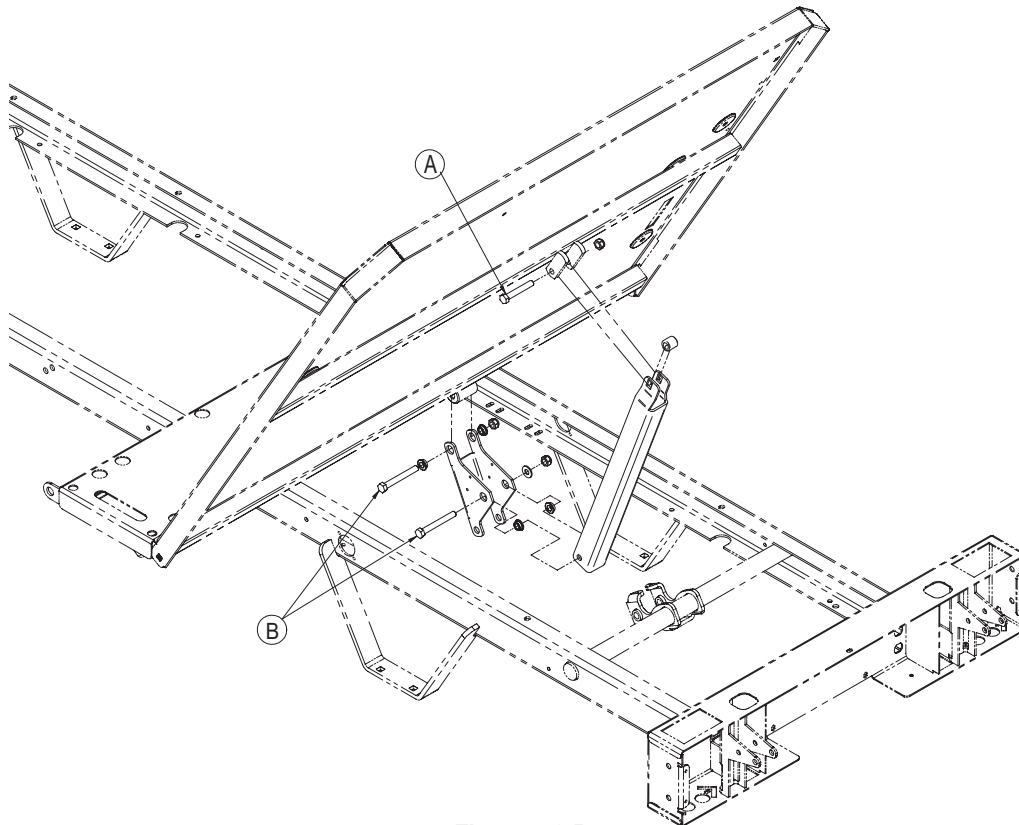

Figure 4.3 B
- Unless otherwise indicated, refer to Figure 4.3 A on pg. 47 for the following replacement procedure.
**Note:** For the bed with ERGO siderails, refer to figure 4.3 C. Remove item A and release the motor. Move to sept No 10.
7. For the ERGO siderail, refer to Figure 4.3 C; remove item A, lay down the motor and proceed to step number 10.
8. Using two 1/2" combination wrenches, remove the locknut, spacer and bolt (A, Figure 4.3 B, pg. 51) holding the upper part of the compression bar to the head section and lay it down.
9. Using two 1/2" combination wrenches, remove the locknut, shoulder spacers and bolt (B, Figure 4.3 B, pg. 51) linking the mattress support lever to the head section and remove the lever-compression bar assembly.